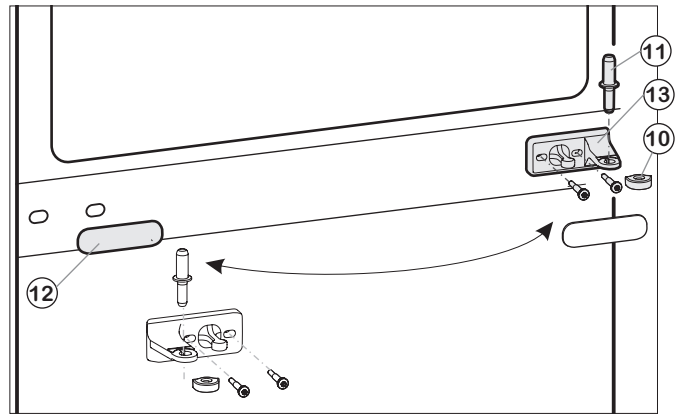
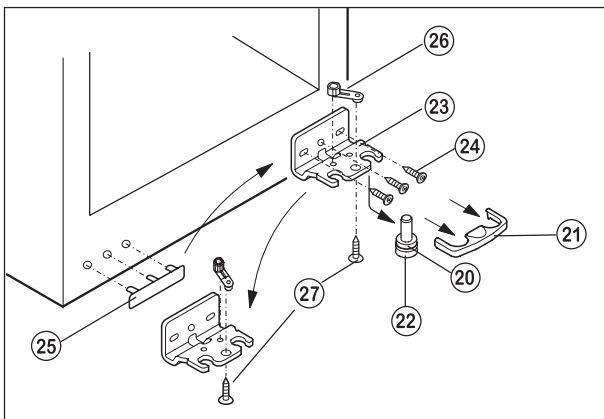

Fig. 2
Fig. 3
- Pull off the plastic cap Fig. 2 (10).
- Pull out the centre bearing bolt Fig. 2 (11).
- Pull off the cover panel Fig. 2 (12).
- Screw off the centre bearing block Fig. 2 (13) and relocate to the new hinge side by turning by 180°.
- Engage the cover panel Fig. 2 (12) on the new handle side.
- Remove the lower cover Fig. 3 (21) forwards.
- Remove the lower cover Fig. 3 (22) downwards and forwards.
In doing so, pay attention to the hinge bush Fig. 3 (20).
- Screw off the bearing block Fig. 3 (23) (3 x Torx 25) Fig. 3 (24).
- Screw off the bearing component Fig. 3 (26) (1 x Torx 25) Fig. 3 (27) and re-locate it into the opposite mounting hole, then firmly screw in again.
- Lift off and re-locate the cover on the handle side Fig. 3 (25).
- Screw the bearing block Fig. 3 (23) back onto the new hinge side.
- Place the door onto the bottom bearing bolt from the top Fig. 3 (22).
- Install the centre bearing bolt Fig. 2 (11) on the new hinge side into the lower door through the centre bearing block Fig. 2 (13).
- Place the plastic cap Fig. 2 (10) turned by 180° back onto the centre bearing block Fig. 2 (13).
- Place the upper door onto the centre bearing bolt Fig. 2 (11).
- Align the doors flush with the appliance housing possibly via the two slotted holes in the lower bearing block Fig. 3 (23) and the centre bearing block Fig. 2 (13), then firmly tighten the screws.
- Engage the cover Fig. 3 (21) again.